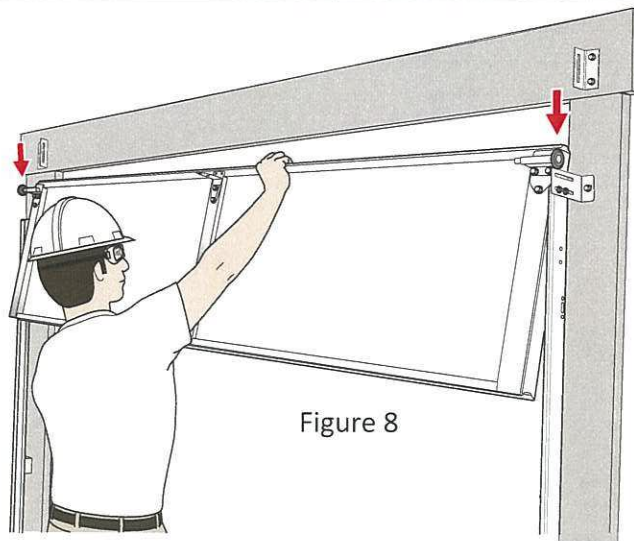
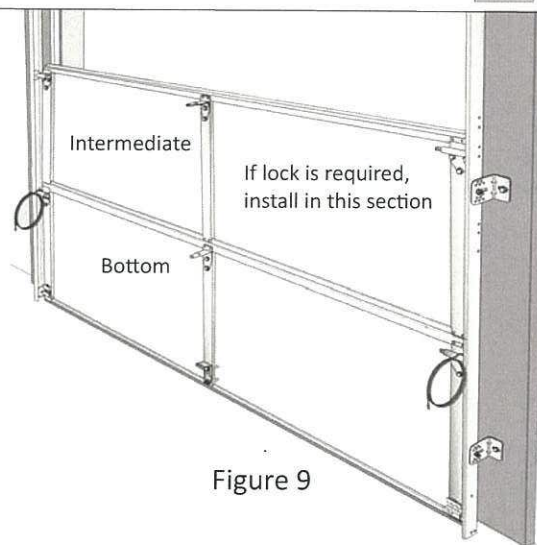

Figure 8
Figure 9
Carefully lift the Intermediate Section, with the rollers, roller carriers, center hinges, and struts (if required) to the top. Slide the rollers down into the track (Figure 8). Slowly lower the section down onto the bottom section that you stacked earlier (Figure 9).
Step 8: Attach the "S" Hook to the right side Horizontal Angle (Fig 8) in a hole approximately 9"-12" back from the header.
Step 9: Run the Lifting Cable back to the Pulley attached to the spring and loop the cable over the top, going through the Sheave (Fig 9).